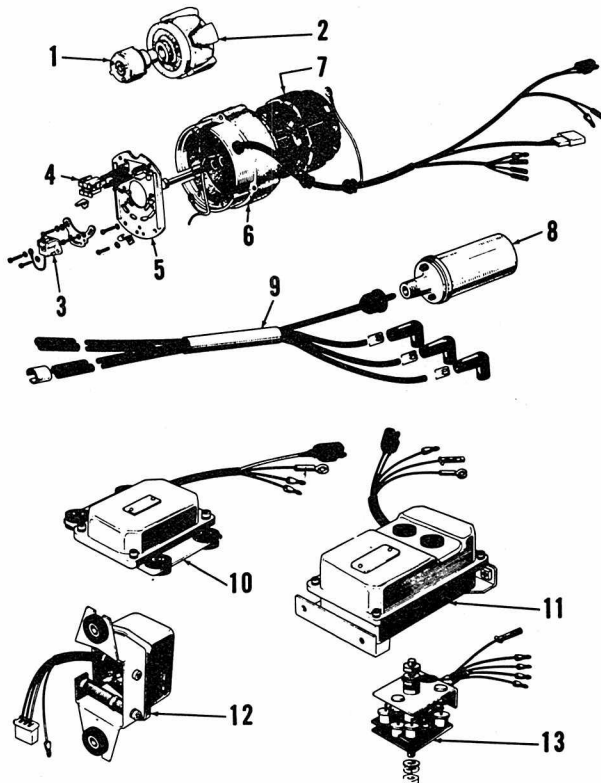
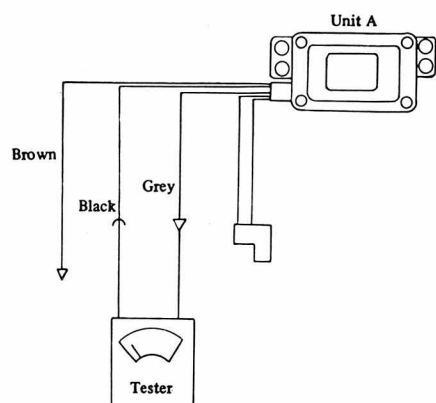
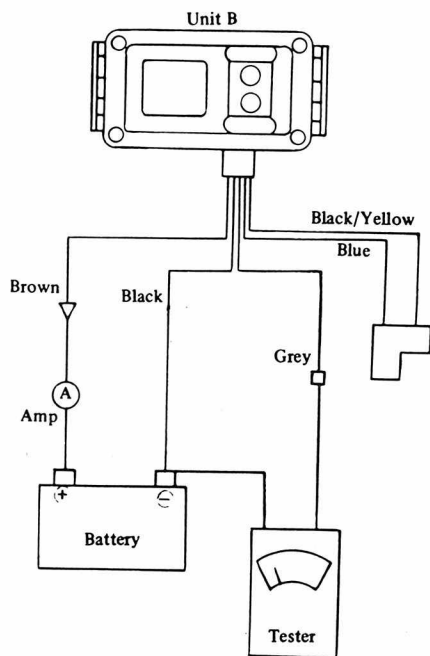

Fig. K6-6—Ignition and electrical system major parts.
Fig. K6-6A—Proper connections for inspecting "A" unit. Resistance should be infinite in both directions.
Fig. K6-6B—Proper connections for inspecting "B" unit. Unit should produce an audible buzz during the test.
**Explanation of Capacitor Discharge Ignition (CDI) System.** Battery current (12 volts DC) is converted to 400 volts DC within the "B" unit (11—Fig. K6-6). The 400 volts is held in a capacitor until a trigger signal strikes the thyristor (SCR) and releases it to the high tension coil (8) for ignition. Ignition timing therefore, is the timing of the trigger signal. A signal generator rotor (1) is mounted on the left end of crankshaft and as it passes the signal pick up (3) it sets up a small current that is amplified and rectified to a sharp trigger signal for precise ignition timing. A distributor (on right side of engine) is placed in the system to direct this timed ignition pulse to the correct cylinder.
If battery voltage is not within range of 11-13 volts, check condition of charging system. Turn main switch ON and make certain that battery voltage is available to the ignition units. On both "A" and "B" unit, the brown wire should be positive and a black wire should be grounded to frame. If 11-13 volts is not available to the ignition units, check wires, connections and main switch for open circuit. The "B" unit (11—Fig. K6-6) is equipped with a transistor vibrator which should produce an audible sound when ignition (main) switch is ON. The sound should be extremely
The "A" unit (10—Fig. K6-6) can be checked separately as follows using an ohmmeter. Attach ohmmeter leads to gray wire and black (ground) wire as shown in Fig. K6-6A, then reverse ohmmeter leads and recheck.
The "B" unit (11—Fig. K6-6) can be checked separately as follows using an accurate ammeter and voltmeter. Connect a good, fully charged battery (12-12.5 volts) to "B" unit as shown in Fig. K6-6B, with ammeter (A—Amp) installed in positive lead. Connect voltmeter to battery ground and to gray wire. The ammeter should indicate 2-3 amps and should remain steady. Voltage indicated between gray wire and ground should be 350-450 volts. The "B" unit should make the tuning fork sound when checking. **CAUTION:** An open or a short in the high tension system (ignition coil, distributor rotor and spark plugs) can easily damage the system. Make certain that connections are secure and well insulated. Any high tension leads that have visible damage anywhere should be renewed. Do not use resistor type wire or resistor type spark plug caps. Use of a high quality ignition sealer is recommended at all high tension connections.